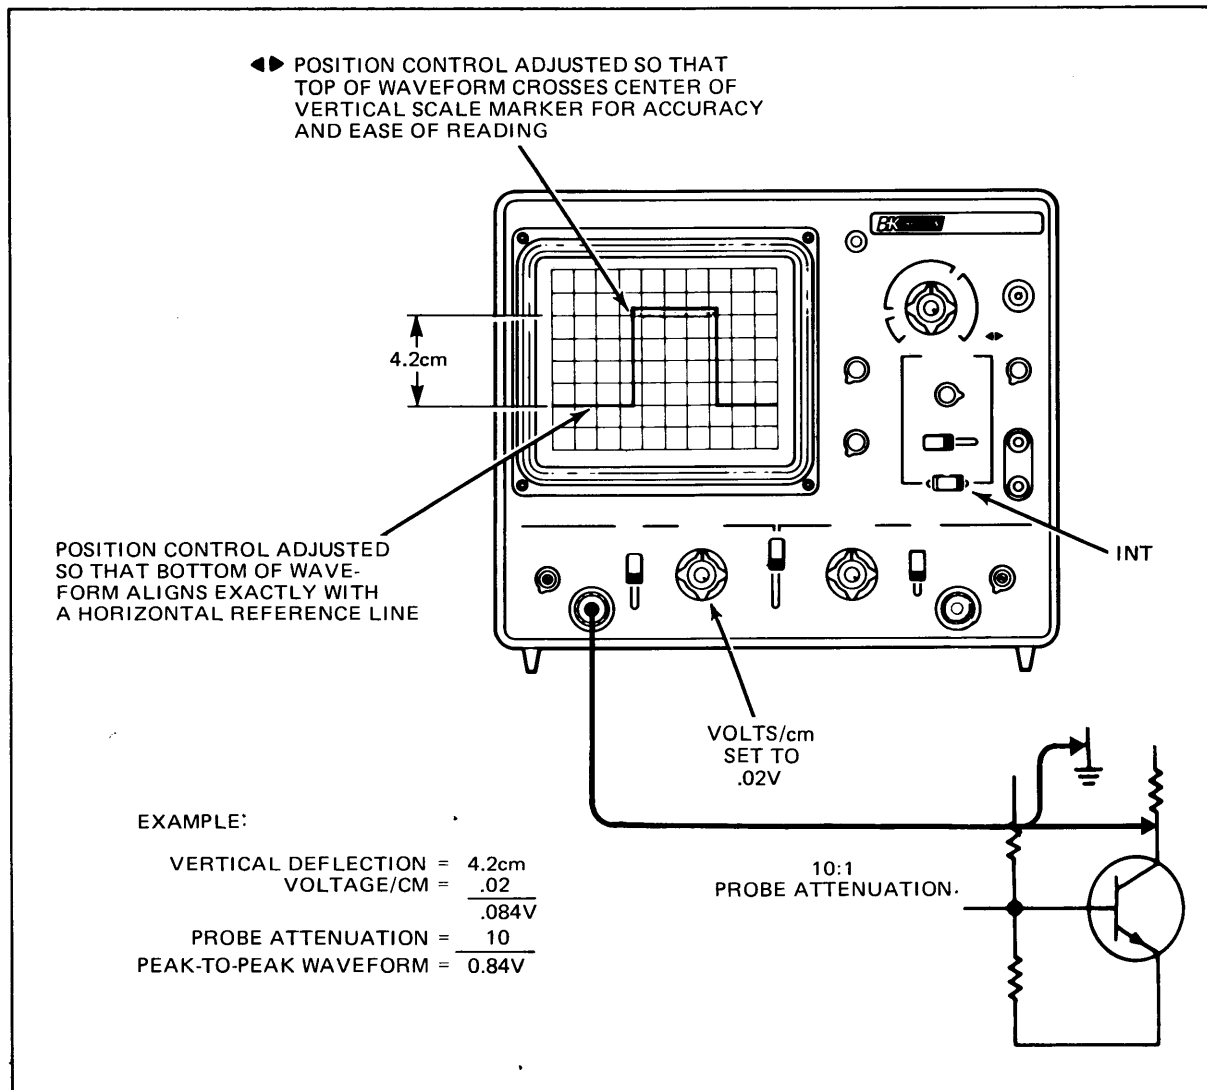

Fig. 4. Typical voltage measurement.
CALIBRATED VOLTAGE MEASUREMENT (See Fig. 4)
4. Calculate the voltage reading as follows: Multiply the vertical deflection (in cm) by the VOLTS/CM control 17 setting (see example in Fig. 4) Don't forget that the voltage reading displayed on the oscilloscope is only 1/10th the actual voltage being measured when the probe is set for 10:1 attenuation. The actual voltage is displayed when the probe is set for DIRECT measurement.